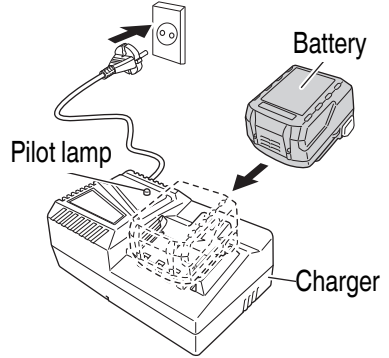

Fig. 7
2. Insert the battery into the charger. Firmly insert the battery into the charger as shown in **Fig. 7.**